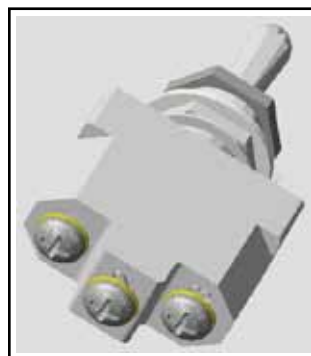

Figure 2 - Replacement Switch N71023
- 1.3. Disconnect the wires for the kneeling switch. Be careful not to damage them. See Figure 2. Mark the position of the wires, in order to replace them in the same position.